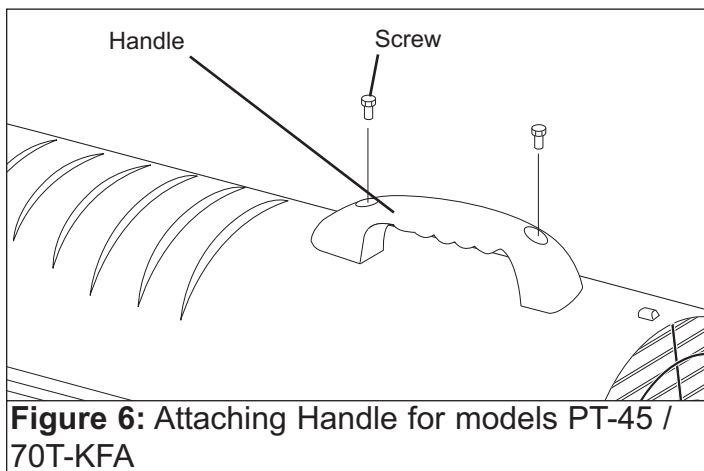

Figure 6: Attaching Handle for models PT-45 / 70T-KFA
1. Align the holes in the upper housing with the 2 holes in the handle as shown in **Figure 6**.